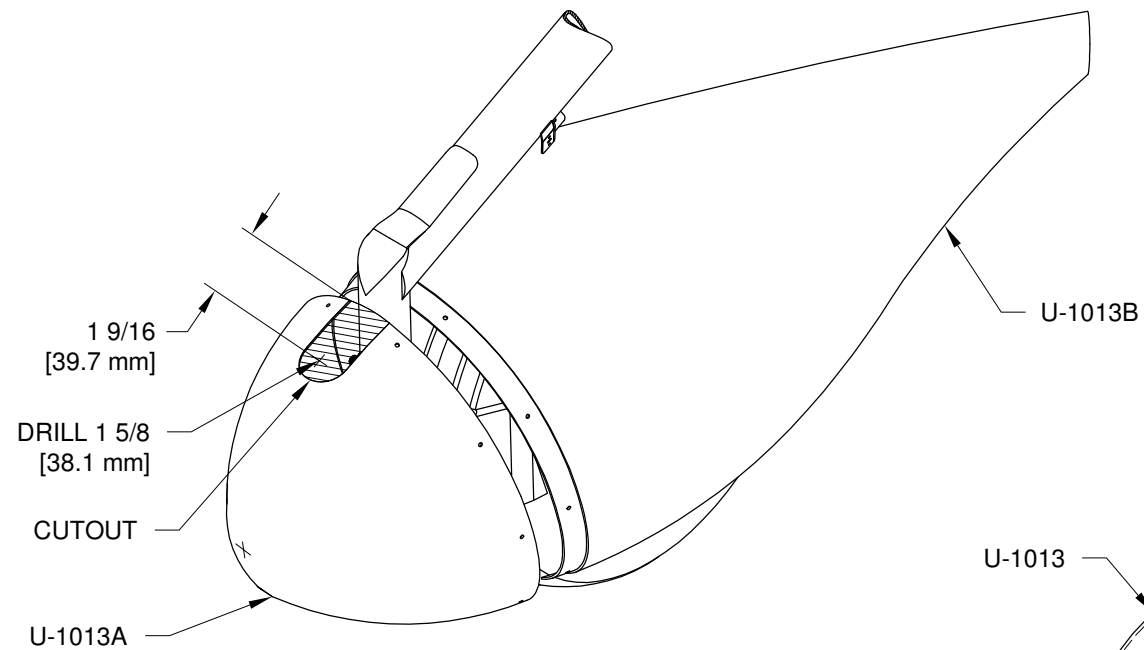

FIGURE 1: CUTTING THE SLOT IN THE WHEEL FAIRING FRONT
Step 4: Use the tape placed on the floor to align the square in the proper fore and aft position as described on Page 46A-11, Step 2 and shown in Figure 2. Mark each side of the fairing at the height noted on Page 46A-11, Figure 1.